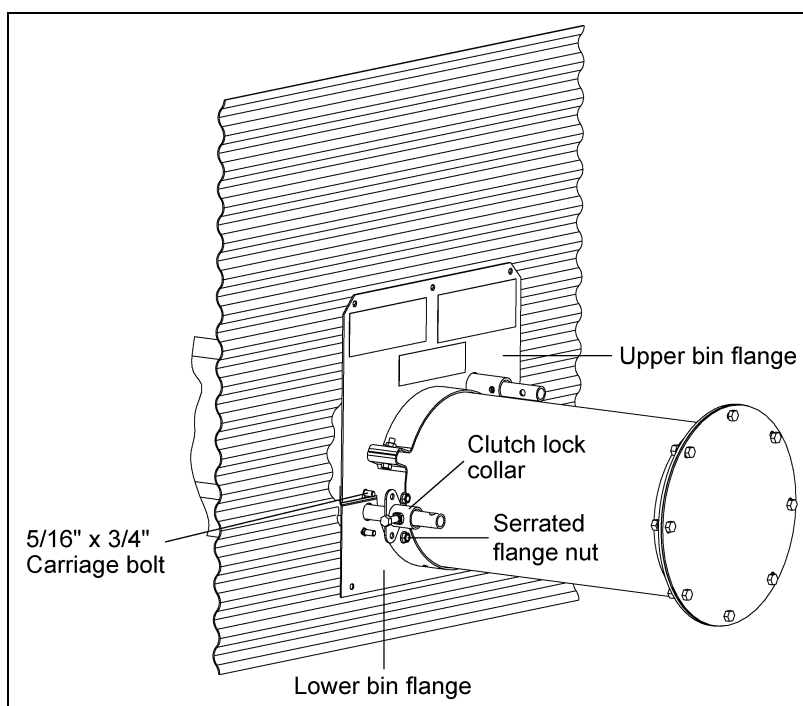

Figure 4J
2. Next, install the clutch lock collar to the lower bin flange using two (2) 5/16" x 3/4" carriage bolts and serrated flange nuts. Install the bolt heads on the backside of the lower bin flange so they will be next to the bin wall when the flanges are attached to the bin. (See Figure 4J.)